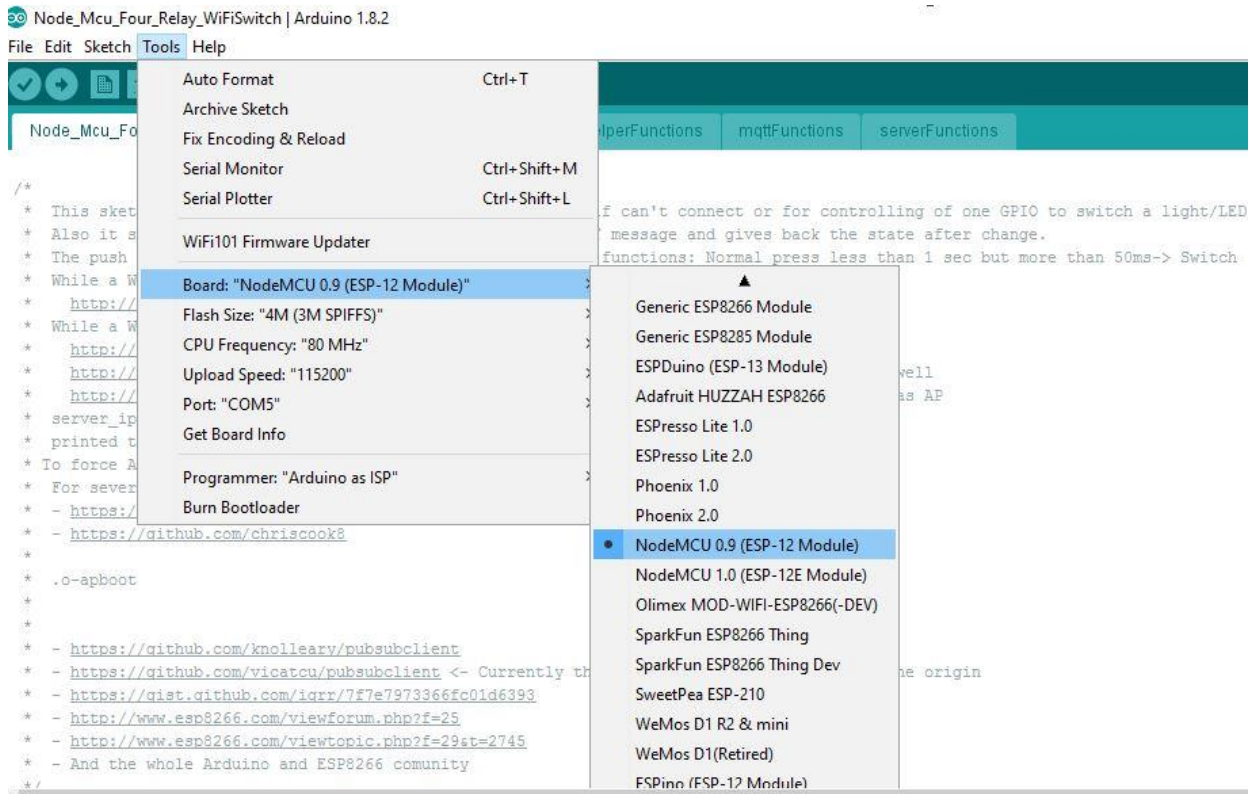

Figure 10: Board Selection
9. Click on Tools Tab, move mouse pointer on "Board: xxxxxxxxxxx" and click on "NodeMCU0.9 (ESP-12 Module)" as shown in figure 10.